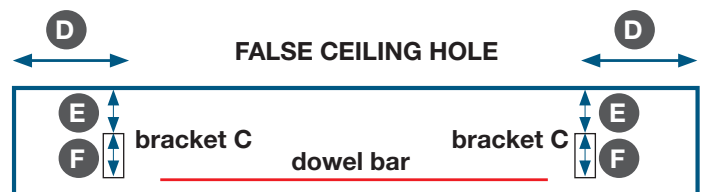

Fig. 2a
Drill the holes following Fig. 2a in order to fix the ceiling brackets (C) to the concrete ceiling, using suitable screws and wall plugs (see also Fig. 6a)
Mount the ceiling brackets (C) to the concrete ceiling (see Fig. 6a), using the holes drilled before, according to Fig. 2a.